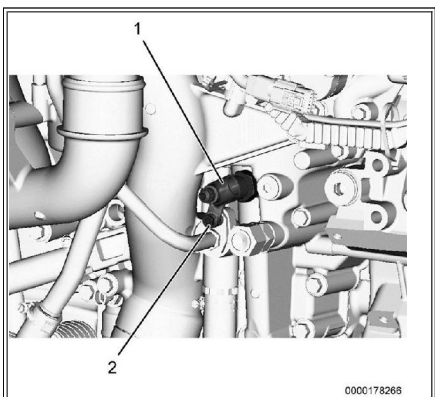

Figure 10: Install Oil Supply T-fitting.
19. Install M6 nut (Figure 10, Item 2) to oil supply T-fitting (Figure 10, Item 1). Using torque wrench, tighten nut to 10 lb-ft (13 N•m).